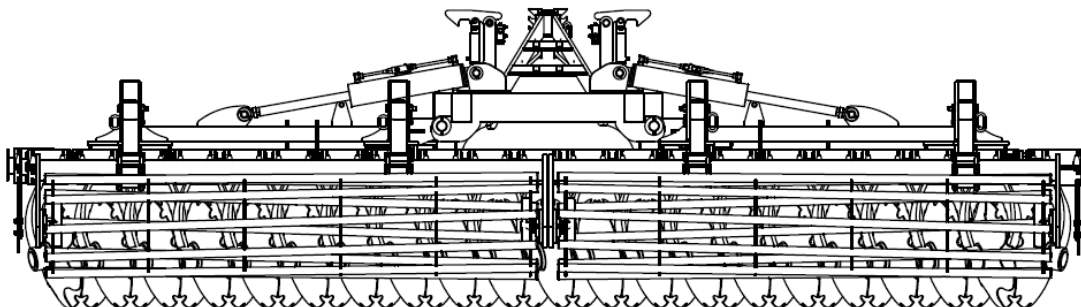

Figure 19 View of the machine at the end of the wing opening sequence. The arms of the machine are fully open.
- 6) Once the opening sequence is complete, check the levelling of the machine (fig 19),